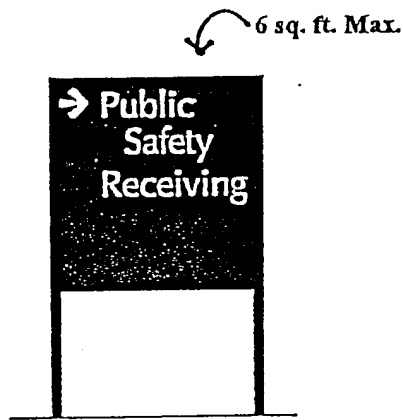

Figure 37
- ☐ Limit the size of each sign to a maximum of 6 square feet (Figure 37).